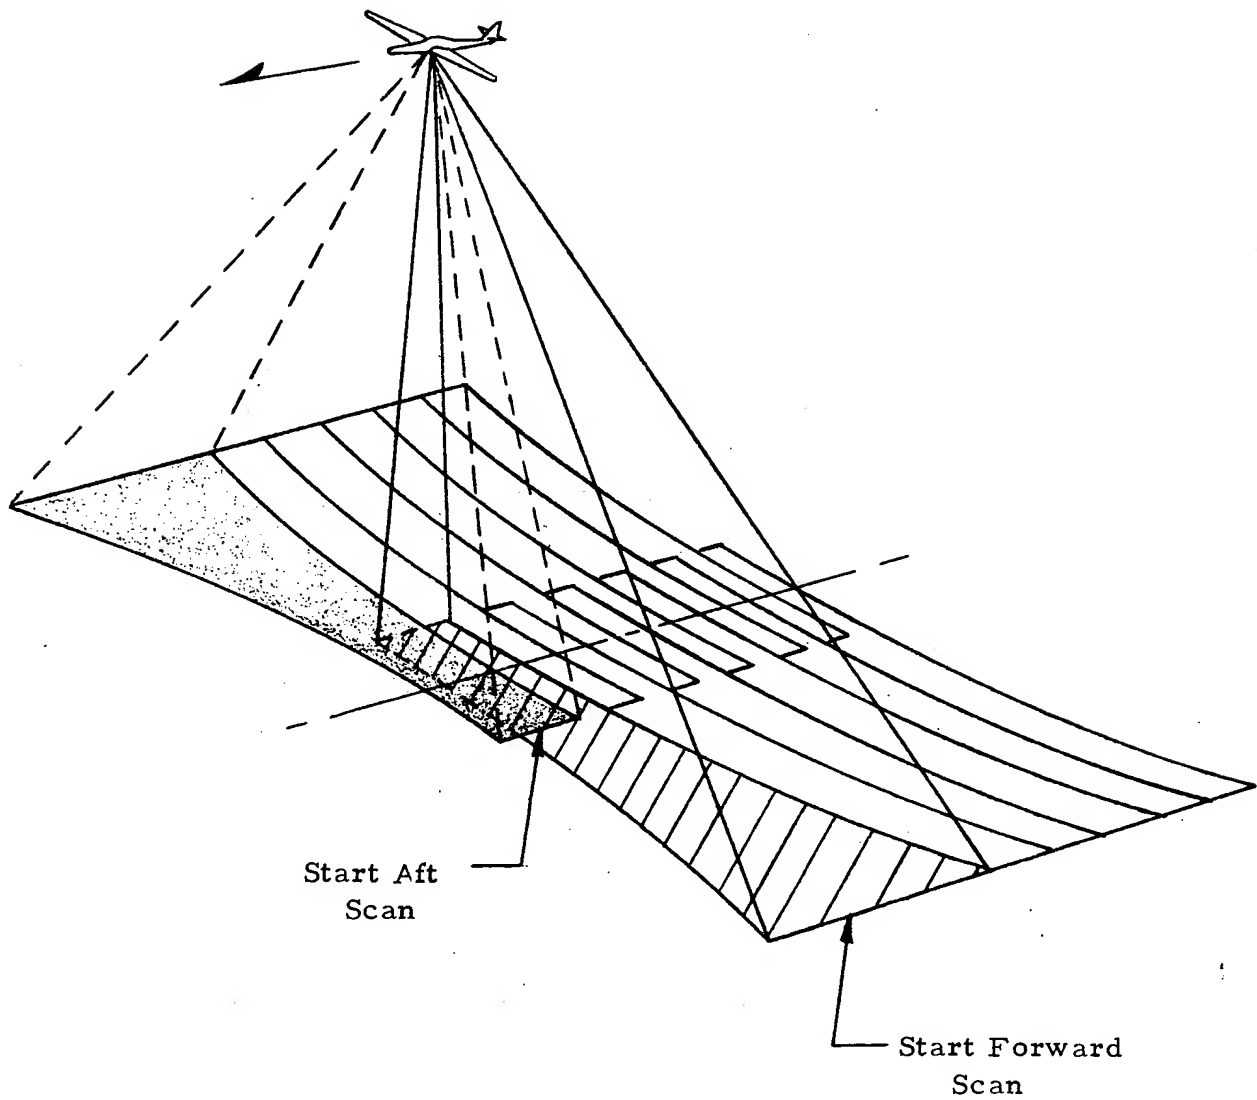
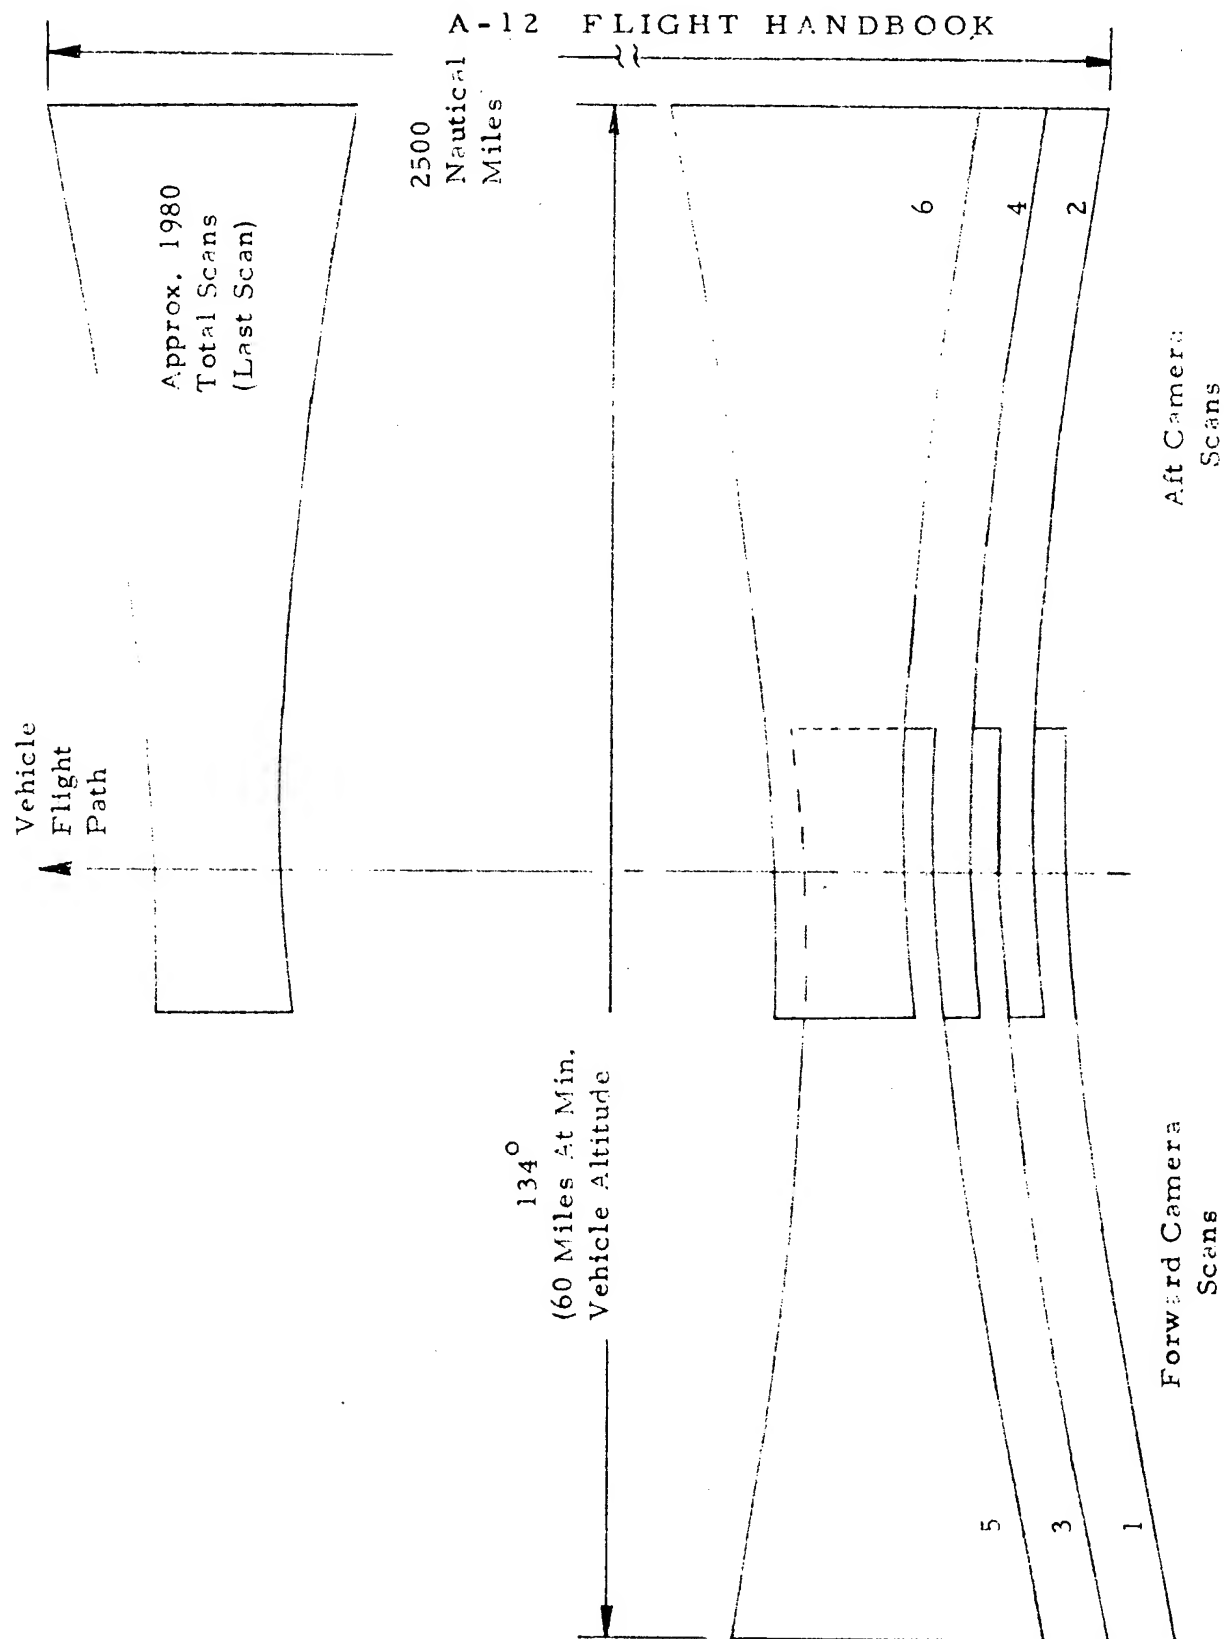

Figure 1-2. Aerial Panoramic Photography, Type I
Figure 1-3. Ground Coverage Format, Straight And Level Flight, Type I
- 1-6. Photographic coverage of the camera system is represented in Figure 1-2. The forward optical system scans the earth from 67° to the left of nadir to 21° to the right of nadir. The aft optical system scans the earth from 21° to the left of nadir to 67° from the right of nadir. Each mission can provide 2500 nautical miles of flight line coverage on 1980 frames and 60 to 75 nautical miles (or 134°) total transverse coverage. The scan overlap provides full stereo viewing of mission results for all points on each frame format. See figure 1-3.